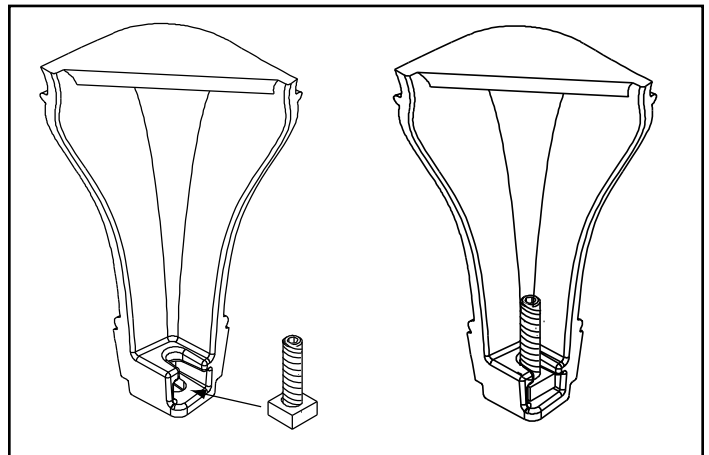

Figure 22.3
9. Slide Allen bolt/nut assemblies into slots of two of the legs with the nuts on the bottom (Figure 22.3).